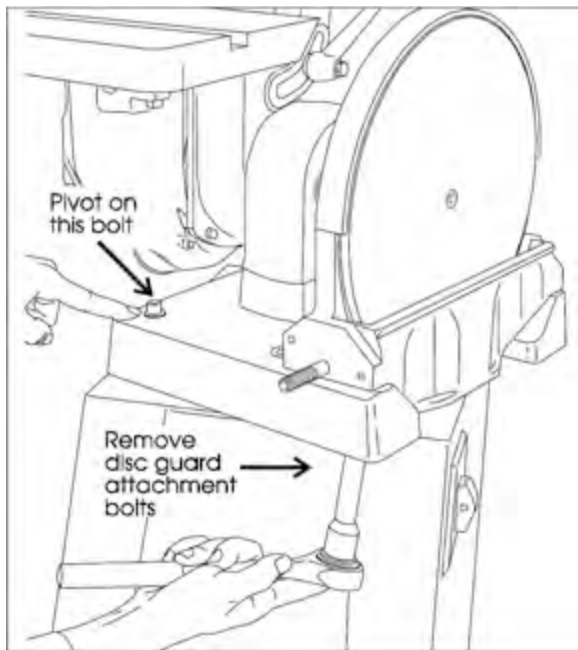

Figure 19: Rotating the machine casting to remove the disc guard bolts
6. Remove three of the base mounting bolts, then loosen the fourth bolt slightly. This allows you to rotate the machine on the machine base (See Figure 19).
7. Remove the two bolts, underneath the machine casting, that secure the disc guard to the casting (See Figure 19).